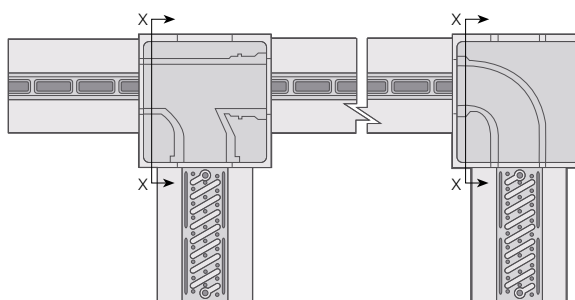

Fig 15a. Clearway/Safeticurb® junction bends
- ▶ Use silt box top at outlets or with suitable uPVC pipe fittings (cut to fit) to form junctions or sharp bends (see figs 15a and 15b - page 149.)